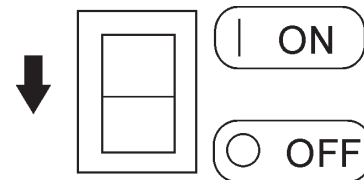

Figure 24. Idle Control Switch (Off)
2. Place the **idle control switch** (Figure 24) in the **OFF** position.